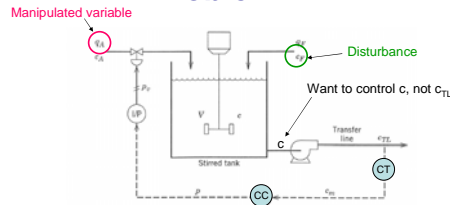

Figure E11.11
11.11 A mixing process consists of a single stirred-tank instrumented as shown in Fig. E11.11. The concentration of a single species A in the feed stream varies. The controller attempts to compensate for this by varying the flow rate of pure A through the control valve. The transmitter dynamics are negligible.